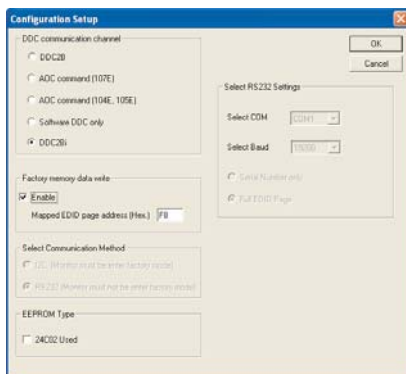

Fig. 24
1. Configuration should be as Fig. 24. And press OK.